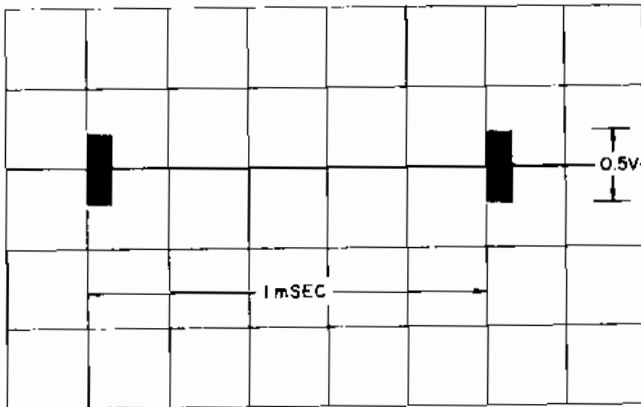

FIGURE 6.20 - WAVEFORM AT TRANSFORMER SIDE OF R61, 1 KC SPECTRUM OUTPUT
t. Compare the waveform at the transformer side of R61 (1 kc/s spectrum output) with that in figure 6.20.
e. Connect the oscilloscope to the side of R43 connected to the collector of Q13. Set R38 to the center of the range which results in a waveform with time between pulses equal to that shown in figure 6.20.